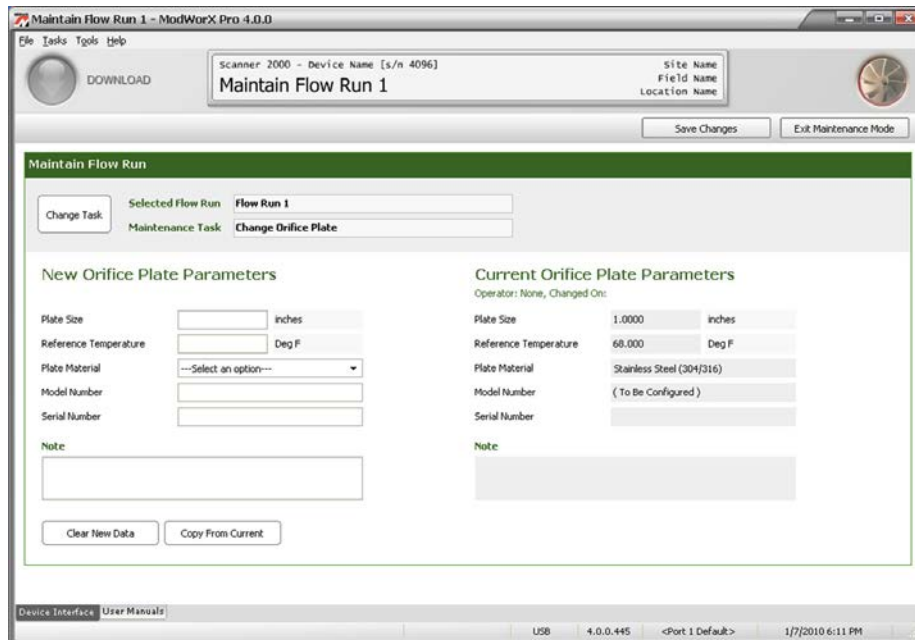
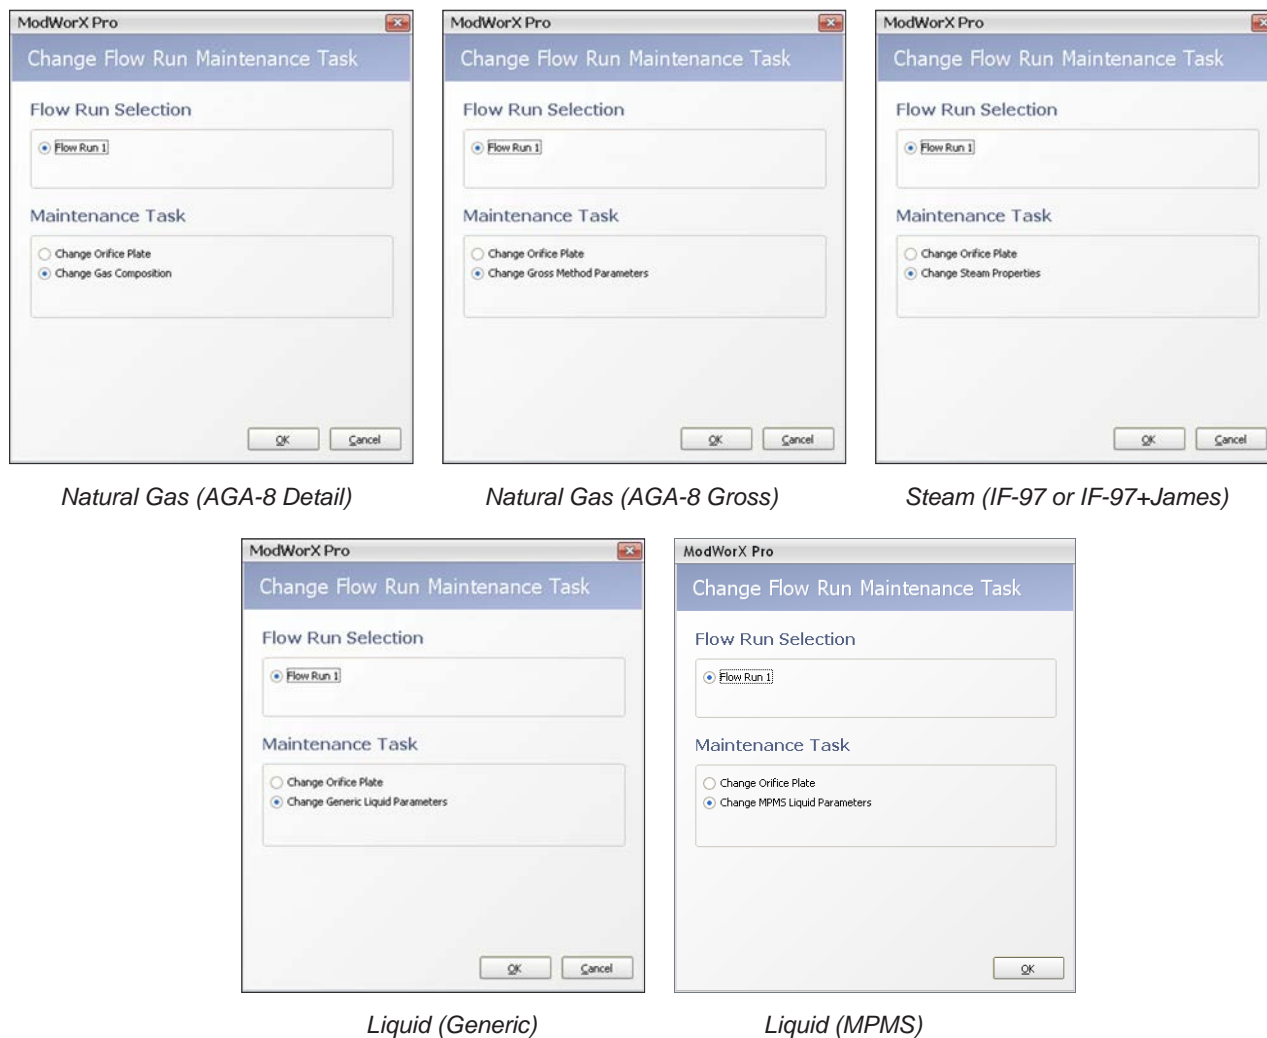

Figure 9.3
Figure 9.4
- Click **OK** to save the selections. The Maintain Flow Run screen will appear (Figure 9.3).
1. If Change Orifice Plate is not displayed in the Maintenance Task field at the top of the Maintain Flow Run screen, click on **Change Task** (Figure 9.3, page 120). The Change Flow Run Maintenance Task dialog will appear. The selections available on this screen will vary, depending on the fluid property calculation method selected, as shown in Figure 9.4.